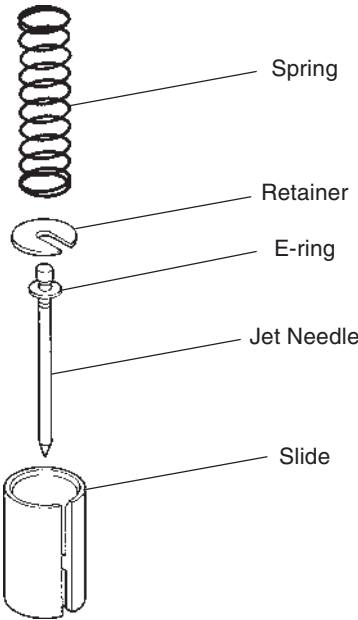

Figure 3.18 Slide and needle assembly
**STEP 1.** Assemble the slide and needle in the exact order as shown in Figure 3.18.